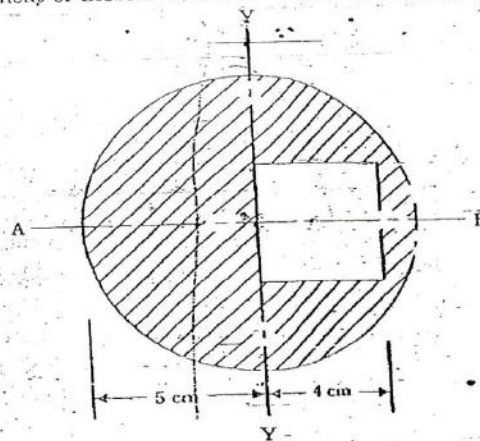

Figure 2-3
8. (a) A square hole is punched out of a circular laminate, as shown in Figure 2-3. Find the moment of inertia about Y-Y axis through c.g. 15